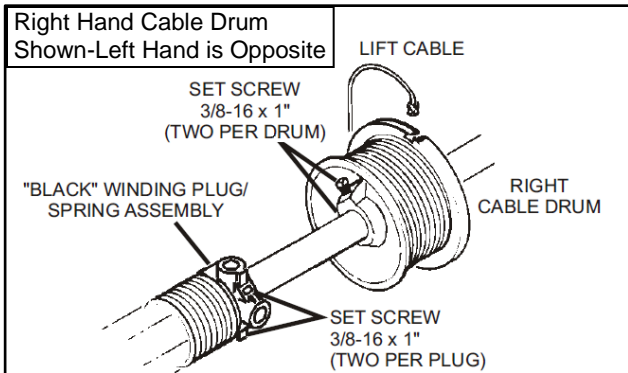
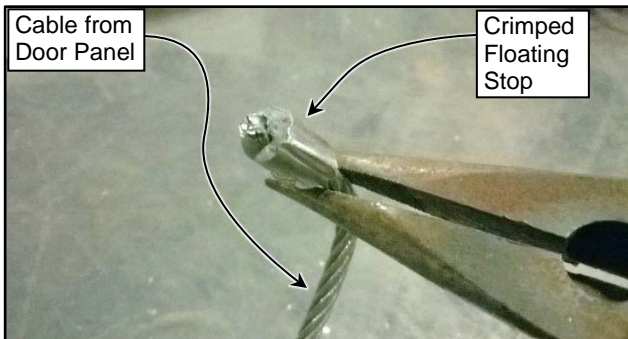
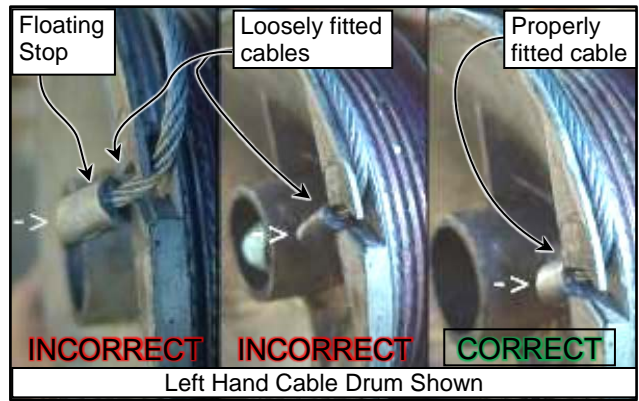
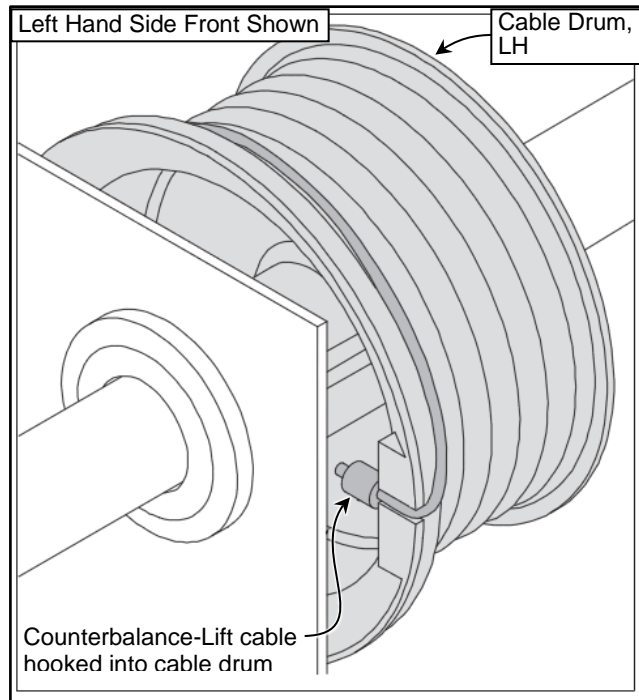

Figure 73
Figure 74
Figure 75
Figure 76
2. Route left side lift cable up to cable drum. To get the cable to properly seat, bend the end of the cable 90° as shown with needle nose pliers and insert the cable into the left side Cable Drum. (See Figure 73, Figure 74, Figure 75, and Figure 76)
3. Tighten the cable around the outer raised groove of the drum as shown. Rotate the drive shaft and drum until the lift cable remains tight. (See Figure 75 and Figure 76)
4. Lock the Cable Drum into place with the set screws by finger tightening them. They may need to be loosened and adjusted yet. (See Figure 73)